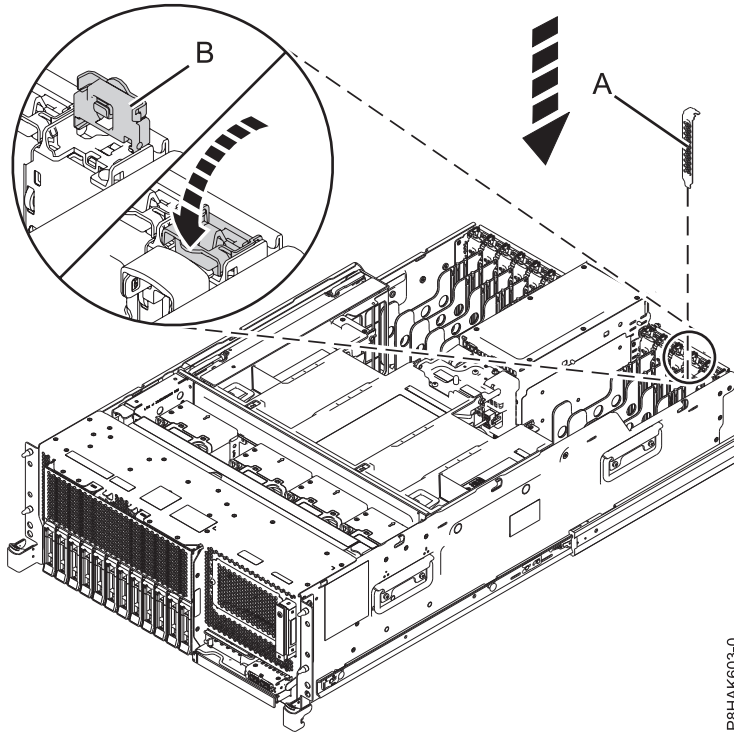
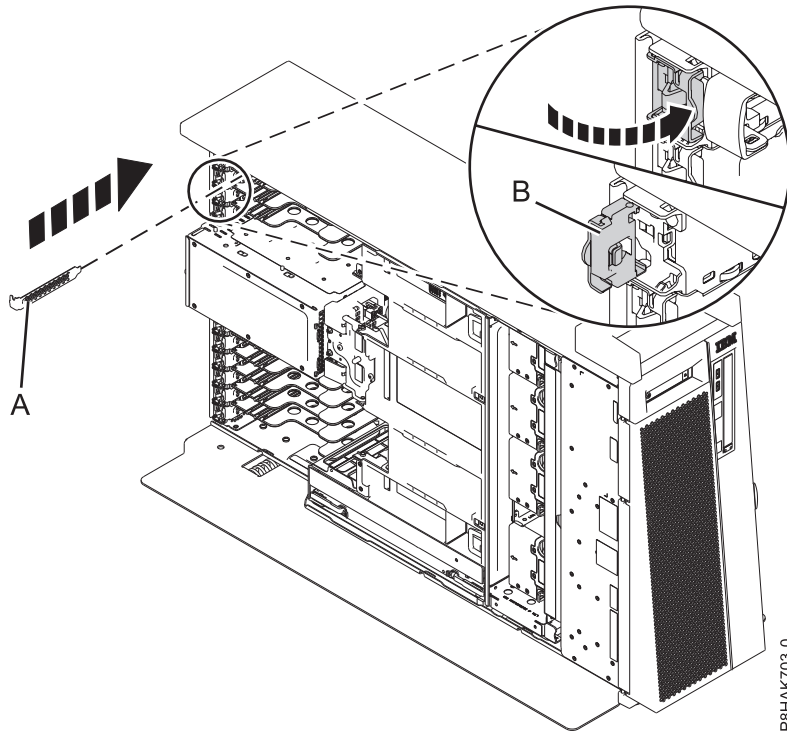

Figure 38. Installing a filler in a PCIe adapter slot in a rack-mounted system
Figure 39. Installing a filler in a PCIe adapter slot in a stand-alone 8286-41A system
- a. Carefully grasp the filler tailstock and align the filler with the slot and its connector on the system backplane, as shown in Figure 38 and Figure 39 on page 42.